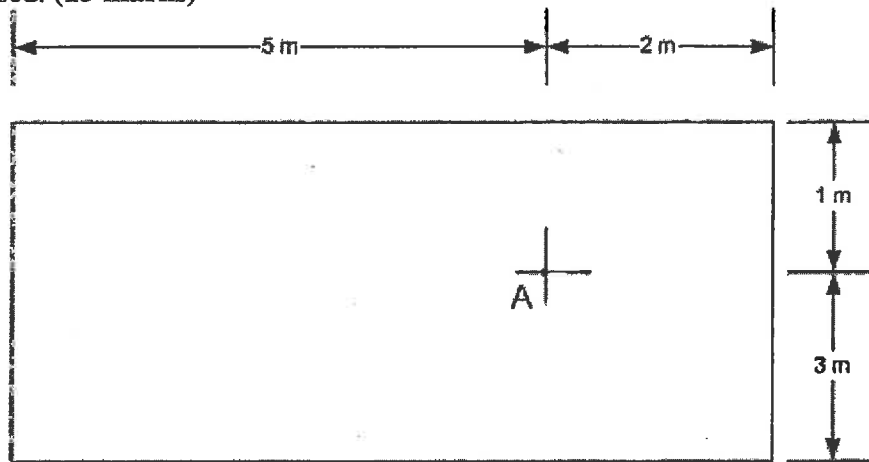

Figure 1
- (b) The footing shown in **Figure 1** is loaded to an intensity of 100 kPa. Determine the increase in vertical stress that occurs at a depth of 3 m below the point A. Use any two methods for determining the increase in vertical stress; one of these methods must use Newmark's chart. Critique the results obtained from both methods you have used. (15 marks)